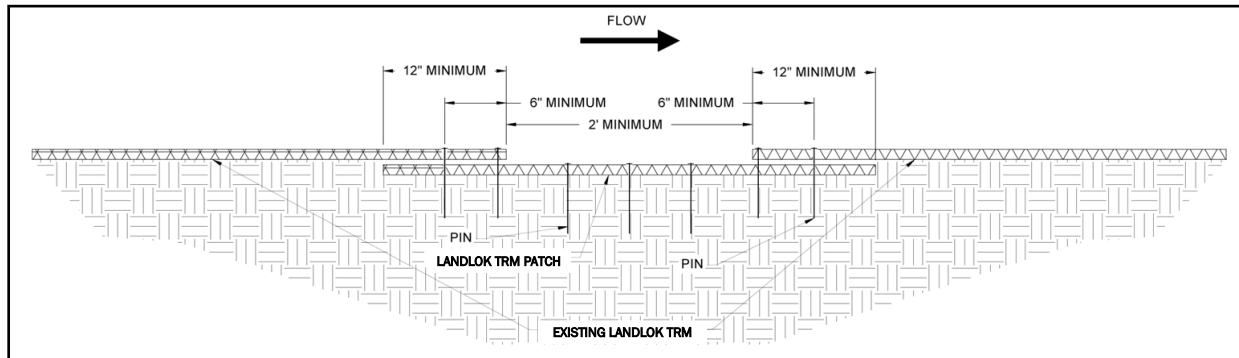
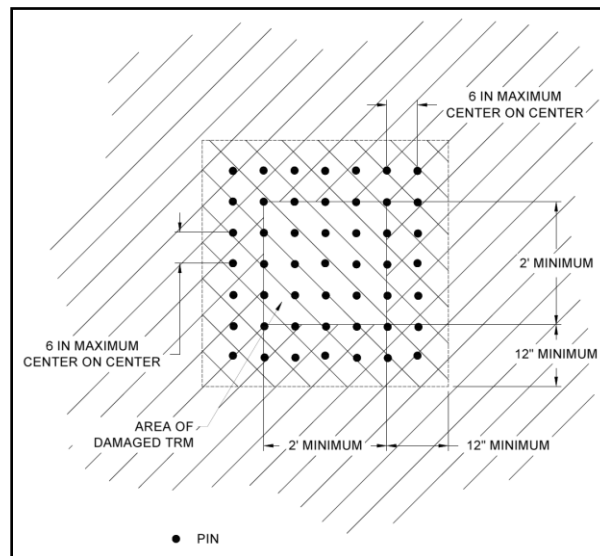

Figure 14: LANDLOK Patch Cross Section
Figure 15: LANDLOK Patch Plan View
- A. *Acceptable* (A) - The rated area is in satisfactory, acceptable condition, and will function as designed and intended during the rain event. LANDLOK has no exposed edges, is installed tightly by maintaining direct contact to the slope surface with no rilling beneath, and has over 90% vegetation cover. There is no noticeable damage present.
- B. *Minimally Acceptable* (M) - The rated area has a minor deficiency that needs to be corrected. The minor deficiency will not seriously impair the functioning of the area during the next rain event; however, the overall reliability of the project will be lowered because of the minor deficiency. LANDLOK has 75% vegetation cover with un-vegetated patches as large as one square yard. Edges of LANDLOK are exposed with noticeable damage. Minimal erosion has occurred underneath LANDLOK.
- C. *Unacceptable* (U) - The rated area is unsatisfactory. The deficiency is so serious that the area will not adequately function in the next rain event. LANDLOK has been physically torn, ripped, or lifted from the slope surface. Less than 75% vegetation cover is present with un-vegetated patches being greater than 1 square yard, and there is evidence that erosion is occurring beneath LANDLOK.
- To repair LANDLOK, cut out and remove damaged areas in a square configuration a minimum size of 2 ft by 2 ft. Remove all vegetation and debris atop of LANDLOK. Loosen the top 1 to 2 in of soil in the patch area then seed. The subgrade of area to be patched shall be prepared to be smooth and uniform and transition smoothly into the in-situ area. Cut a square LANDLOK patch a minimum of 12 in greater than the damaged area for all four sides of the patch. Overlap the patch area in all directions a minimum of 12 in. The patch overlaps shall be tucked under the existing damaged LANDLOK material (Figure 14 and Figure 15)